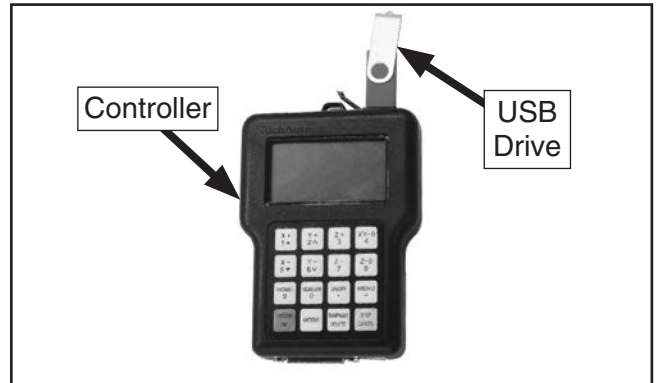

Figure 23. USB drive connected to controller.
2. Insert USB drive loaded with G-code into controller (see **Figure 23**).